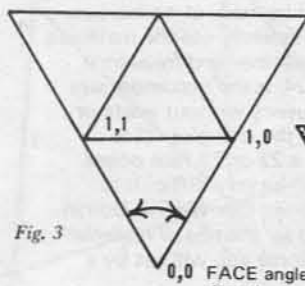

Fig. 3
**FACE 1,1 0,0 1,0** refers to one angle of the triangle described by these points. The angle given is the angle whose apex is at the second vertex identification shown; in this case, 0,0 (Fig. 3). Face angles refer to angles of triangles generated by chord factors, not spherical angles on a true sphere. Again, the first number is given in degrees and the second in radians.